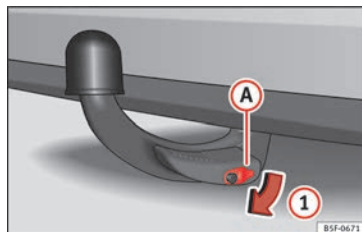

Fig. 240 Removing the lock cover.
- Remove cover ① from the lock in the direction of arrow ① » Fig. 240.